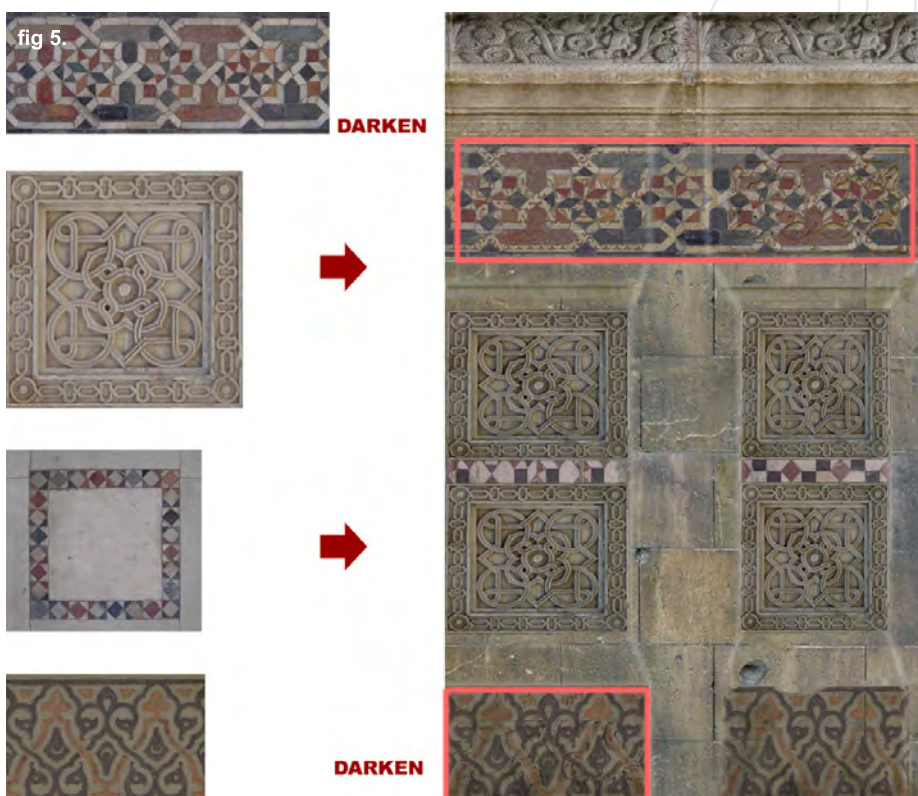

fig 6.
5. This about completes the stone version which is perhaps the simplest of the three and when all are applied to our geometry we end up with a scene that looks like Fig 6. The lighting was done using multiple low intensity Omni lights with various attenuation ranges and shadow maps. The light source is supplied by spotlights above each of the ceiling vents that use volumetric lighting to add an old and dusty atmosphere. The settings for the spots can be seen in the Environment dialogue box on the left hand side in Fig 7.